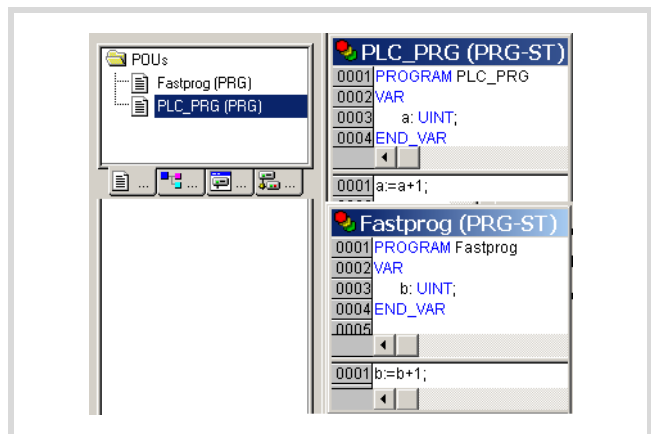

Figure 29: Writing a program
- Create the POUs "PLC_PRG" and "Fastprog" as shown in figure 29.